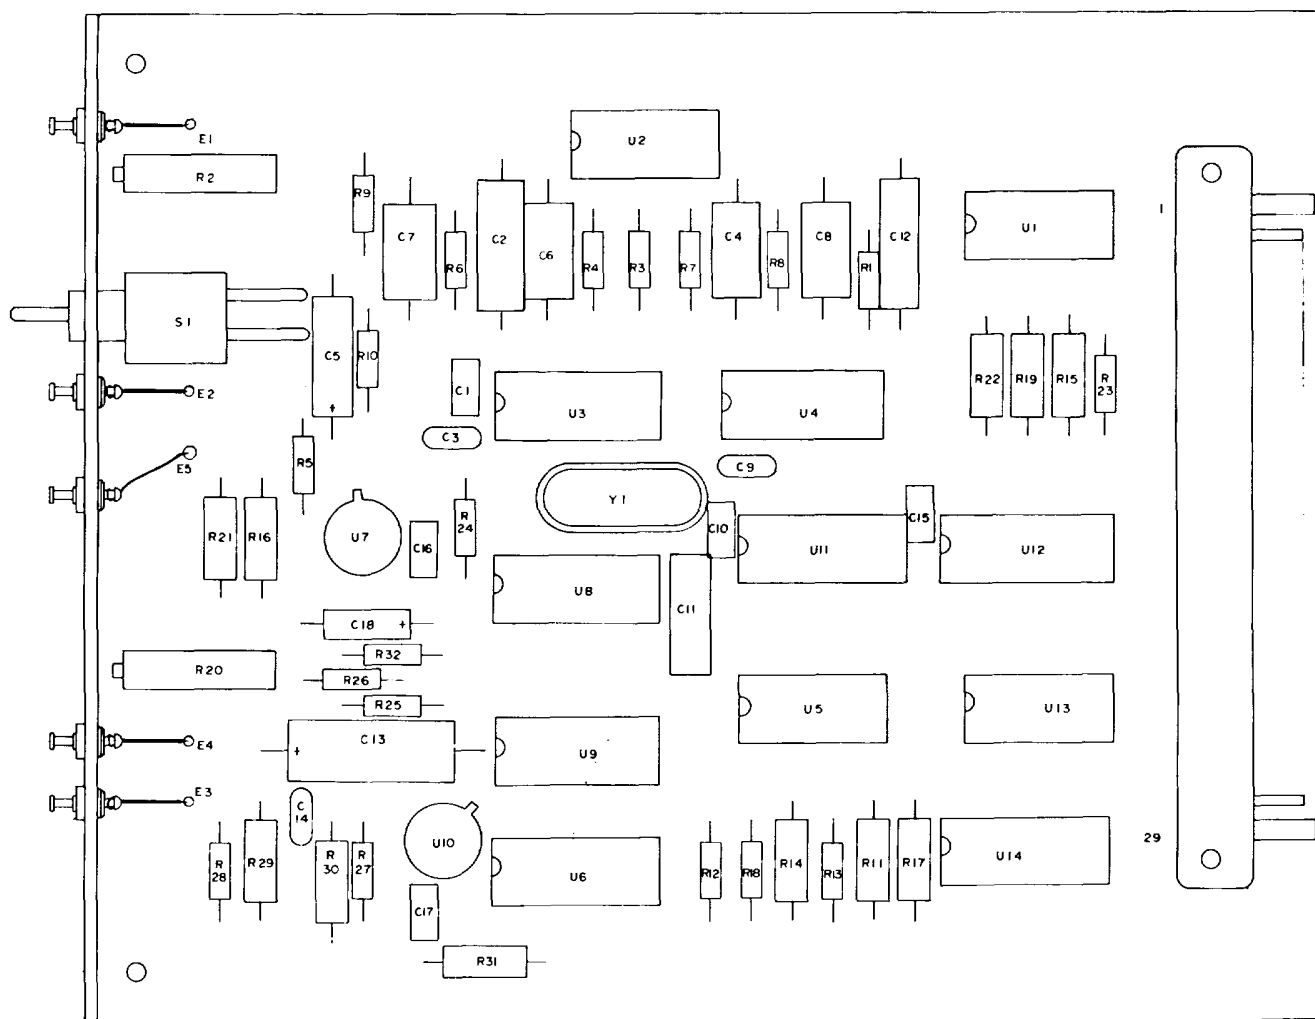

Figure 7-2. Reference and Subcarrier Circuit Card Assembly, 1A5A1 Parts Location Diagram
b. Reference and Subcarrier Generator Circuit Card Assembly (1A5A1) Disassembly. This circuit card assembly should be removed only when servicing or component replacement is required. To remove this circuit card assembly, grasp both edges of the card and pull up. Further disassembly should be limited to removal of parts for repair or replacement. Refer to figure 7-2 for location of component to be replaced.